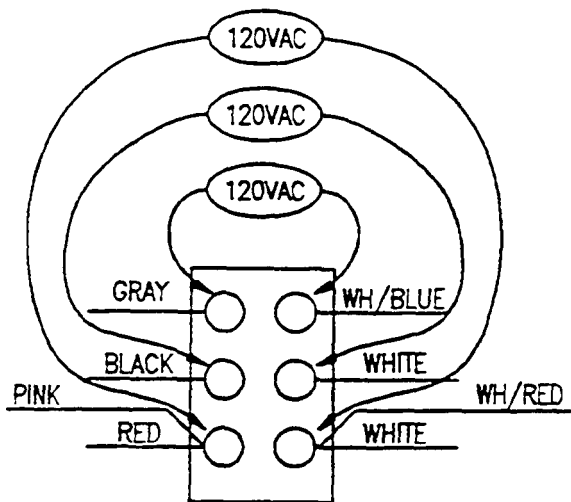

Figure 6-13. ON/OFF Switch - 24-CEA-
3. Set the ON/OFF switch to the OFF position. Refer to Figures 6-13 and 6-14, and check for 115/120 VAC across the top terminals of the ON/OFF switch (white/gray and gray wires on model 24-CGA-10) or (white/blue and gray wires on model 24-CEA-10).
4. Refer to Figures 6-13, 6-14, and 6-15. Check for 115/120 VAC across the center terminals of the ON/OFF switch (white and black wires).
5. Refer to Figures 6-13, 6-14, and 6-15. Check for 115/120 VAC across the bottom terminals of the ON/OFF switch (pink, red and white, white/red wires on model 24-CEA-10) or (pink, black and white, white wires or model 24-CGA-10).